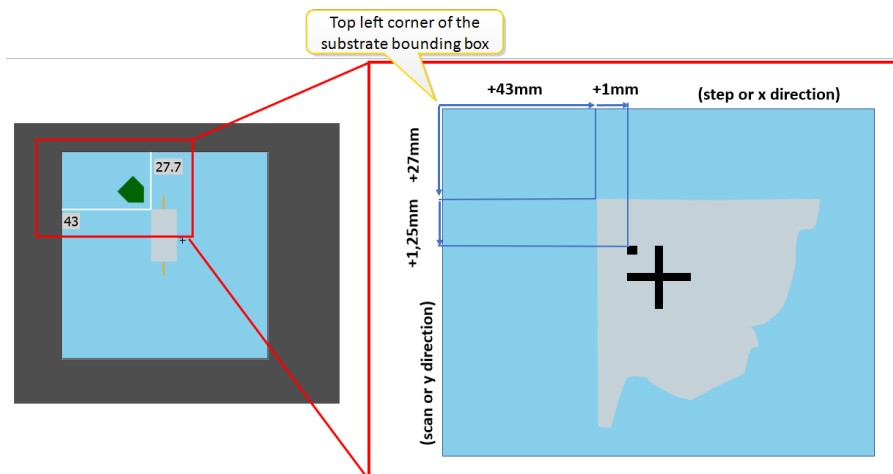

Figure 3-98 Project position (l) and Fiducial position (r)
2. Calculate the expected fiducial marker positions with reference to the top left of the substrate bounding box, see Figure 3-98.